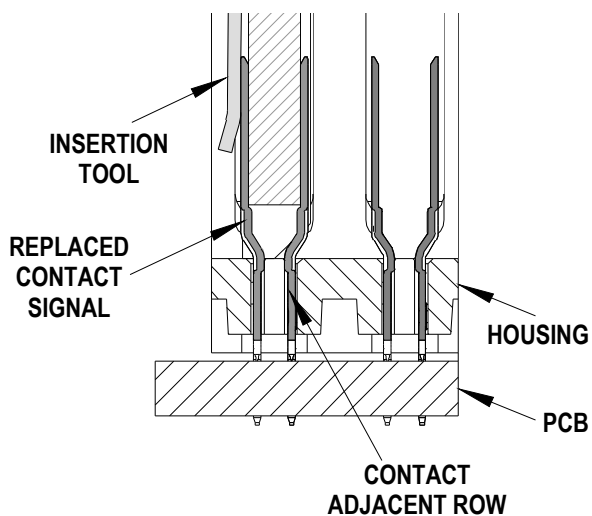

Figure 5-3
4. Make sure the signal contact is in the correct orientation. Check the column where the repair signal contact is being replaced and compare the column to the contact signal on the insertion tool. The two should be the same. The adjacent column is oriented in the opposite direction. See Figure 5-3.